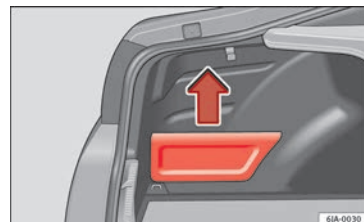

Fig. 160 Luggage compartment: storage compartment
- Hold onto the top of the lid and pull it out in the direction indicated by the arrow » **Fig. 160**.